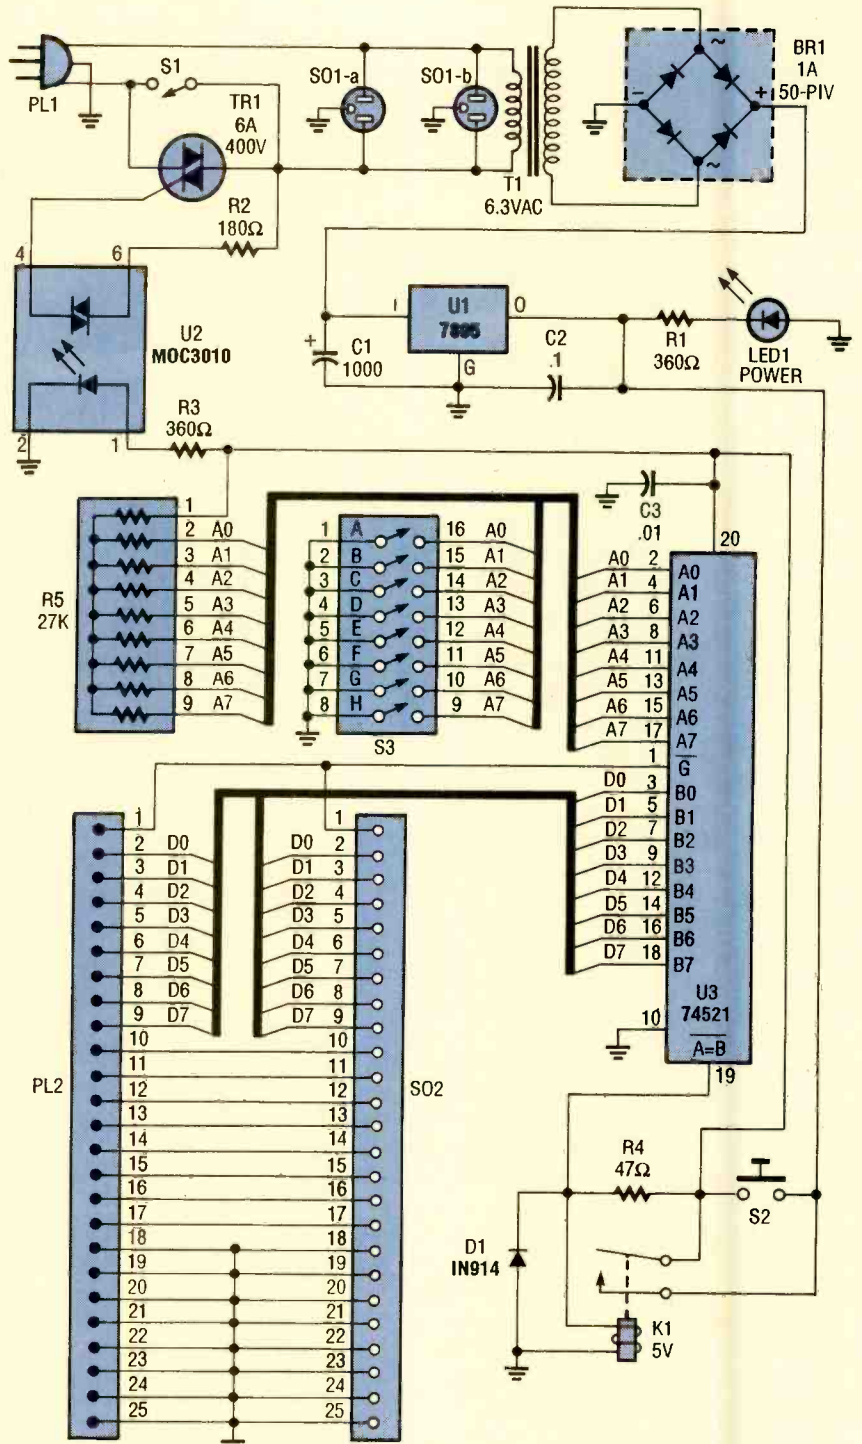

Fig. 4. At long last, here is the schematic diagram for the Kill Switch. Note how the 74521 is connected directly to the data lines.
**The Circuit.** The schematic diagram for the Kill Switch is shown in Fig. 4. One obvious feature of the circuit is the straight-through cable formed by PL2 and SO2. That cable allows data from the computer (attached to PL2) to flow freely to any printer cable connected to SO2. That permits the printer to operate normally without any hindrance from the Switch. If you will not be using a printer along with the unit, you can dispense with SO2, but you might have to further modify the cable to eliminate handshaking problems (more on that later).